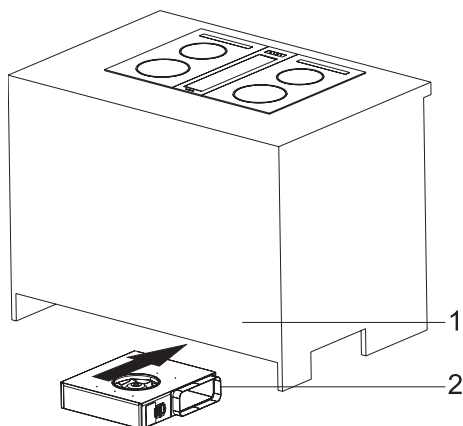

Fig. 31
12. ➤ Insert the motor box under the kitchen cupboard (Fig. 31).